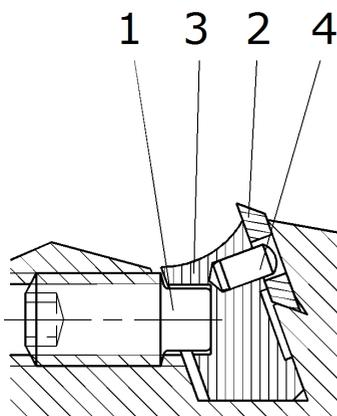

Fig. 1
(see Fig. 1 and 2)
2. Loosen the set screw (1) with an Allen key only so far in order the wedge (3) with knife (2) can be completely removed from the knife seat.
4. Put together outside the knife seat reversed or new knife with the wedge. Make sure that the safety pins (4) of the wedge engage into the connecting holes provided for by the knife.
5. Mount precisely knife and wedge as a unit into the knife seat (see Fig. 1 and 2). Make sure that the stop edge of the knife lies-on well in the knife seat.